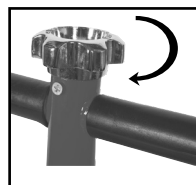

Fig.15
- Slowly turn the release knob (1) counter-clockwise to lower the vehicle onto the jack stands (Fig 15).